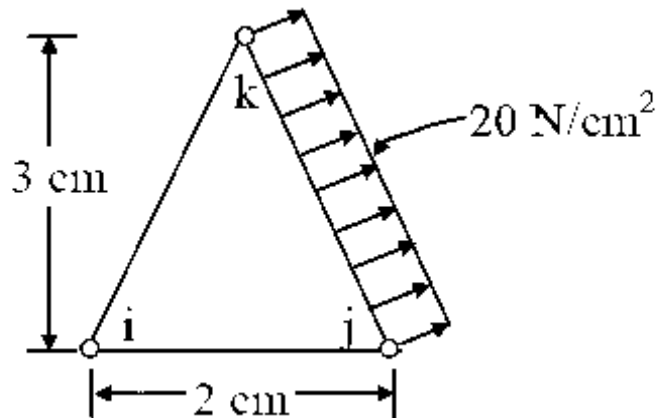

Fig.1
6. Determine the element equations for the plane stress element shown in Fig.1. The element